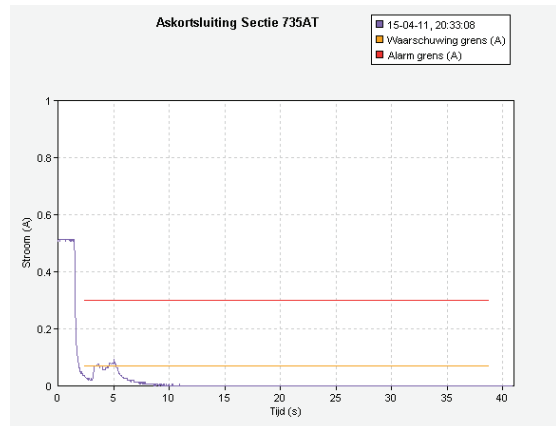

Figure 1 Representation of wheel shunt
- Wheel shunt for each passing train on a certain section (Figure 1 Representation of wheel shunt)